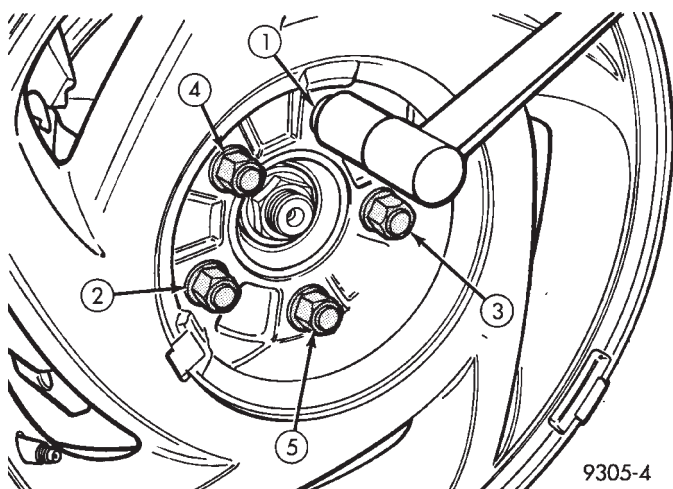

Fig. 12 Tightening Wheel Nuts
(7) Install the wheel and tire assembly.
(8) Tighten the wheel mounting stud nuts in proper sequence (Fig. 12) until all nuts are torqued to half specification. Then repeat the tightening sequence to the full specified torque of 129 N•m (95 ft. lbs.).